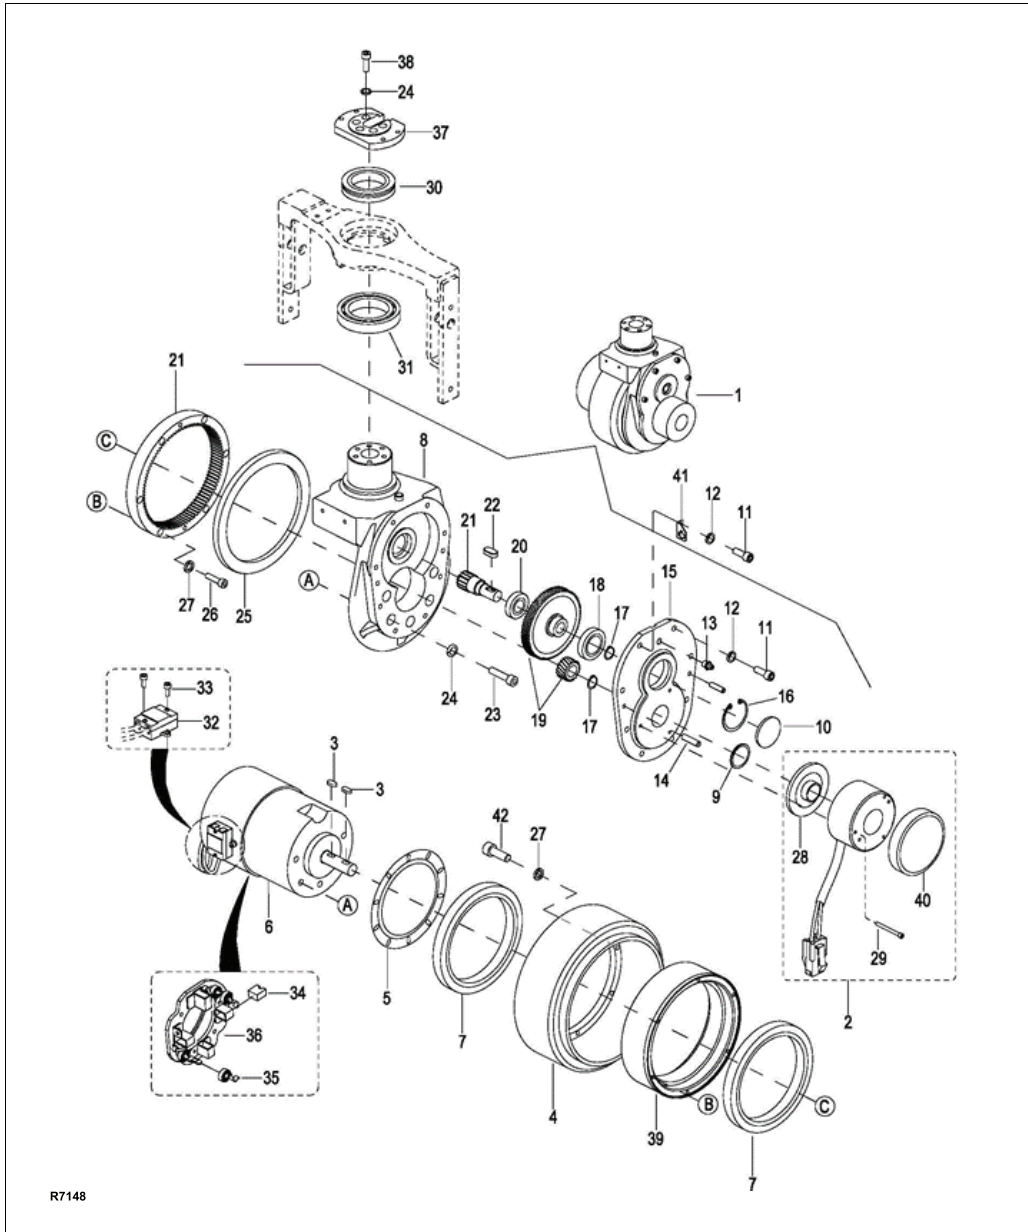

Figure 7-1 Transmission, Motor, Brake Mounting
5. Remove five screws (23, Figure 7-1), lock washers (24), and free motor (6) with drive wheel (4) from housing (8).
6. Remove the six screws (26), six lock washers (27) and gear (21).
7. Remove drive wheel (4) from motor (6).
8. Remove bearings (7) from wheel (4).
3. Remove the brake (2, Figure 7-1) as described in paragraph 6-1.1.
6. Support the housing (8, Figure 7-1) and remove five screws (38), five lock washers (24) and plate (37)